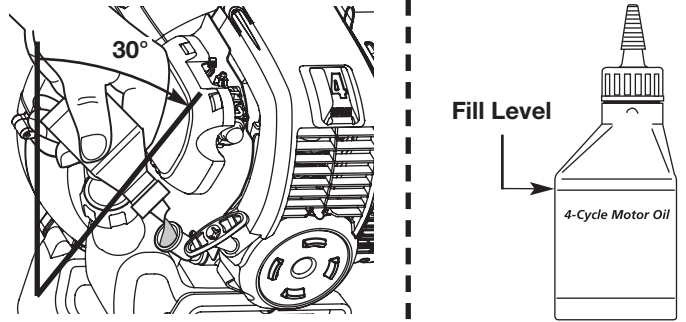

Fig. 22
4. Tilt the unit backwards 30° (Fig. 22).